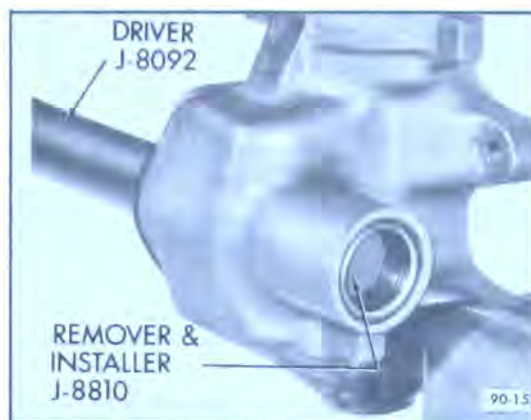

Figure 90-10 Installing Pitman Shaft Bushing
5. Inspect teeth of ball nut and pitman shaft for pitting or scoring which would require replacement of ball nut or pitman shaft. Inspect pitman shaft bushing in housing for excessive wear or scoring. If necessary, remove pitman shaft bushing and install a new bushing with remover and replacer J-8810 and drive handle J-8092. See Figure 90-10.